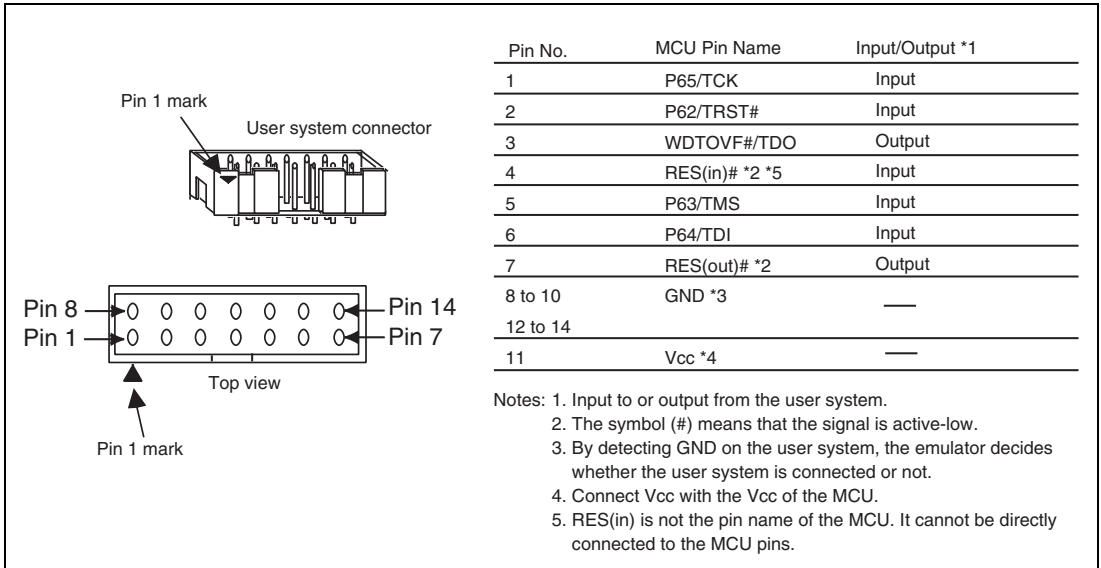

Figure 1.2 Pin Assignments of the User System Connector
Figure 1.2 shows the pin assignments of the user system connector.
0. The emulator communicates with the MCU by using the pins shown in figure 1.2 in section 1.3. These pins cannot be used.